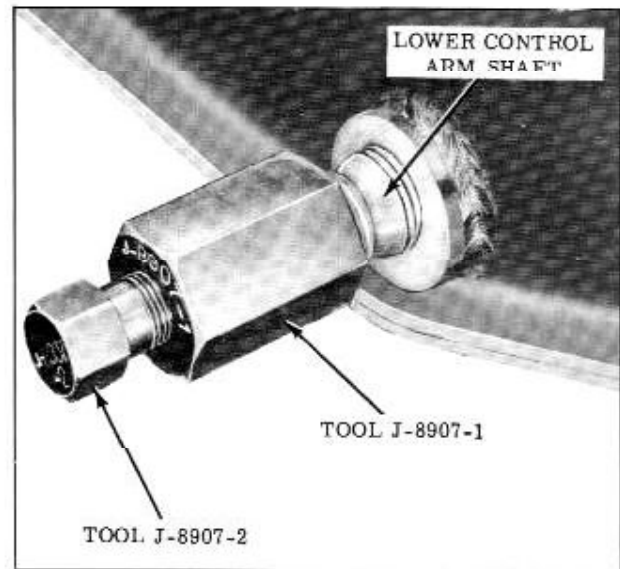

Fig. 5-6 Replacing Lower Shaft
2. Place Tool J-8907 on rear end of shaft. Adjust lock bolt so tool will not thread tightly and bind on shaft. (Fig. 5-6)